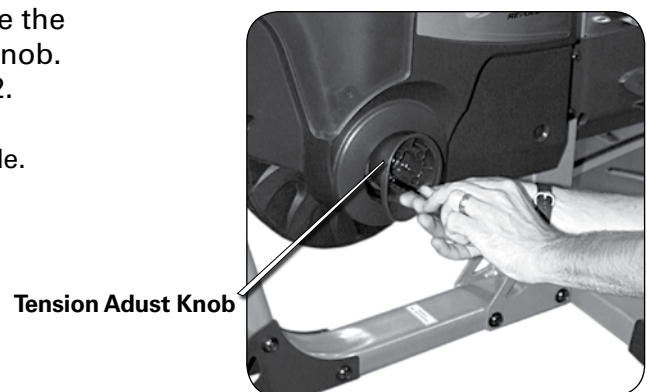

Figure 4
- 4-1 Use a phillips head screwdriver to remove the four screws securing the Tension Adjust Knob. See **Figure 4**. Set screws aside for Step 12.